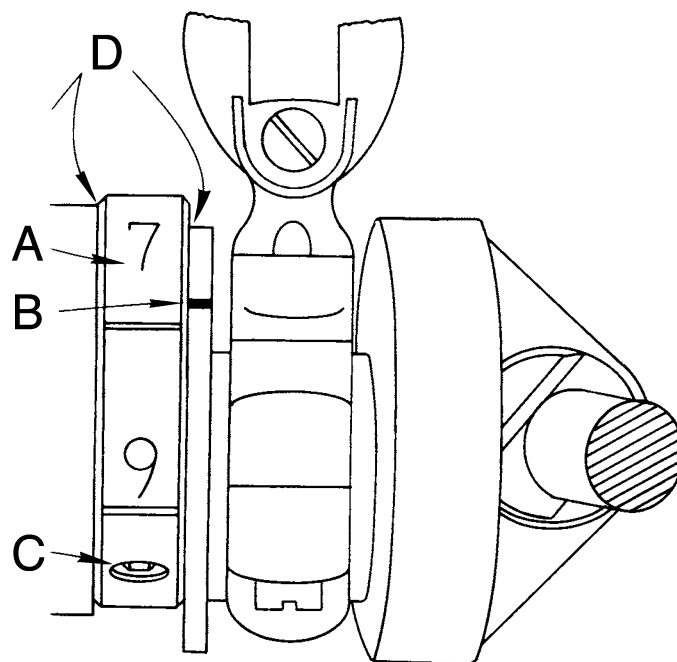

FIGURE 5
3. The numbered disc (**item "A" in Figure 5**) is called the stitch regulating collar. The position of this collar with respect to a notch on the rim of the feed eccentric (**item "B" in Figure 5**) determines the length of stitch. Before changing the length of the stitch, note the original setting of the notch with respect to the stitch regulating collar.
4. Loosen the screw (**item "C" in Figure 5**) which locks the stitch regulating collar in position. Insert a screwdriver blade in the split on the stitch regulating collar which will be found directly beneath the locking screw. While holding the screwdriver firmly in position, move the handwheel until the notch on the rim of the feed eccentric is lined up with the desired number on the stitch regulating collar. To increase the length of stitch from the original setting, move the notch to a higher number.
7. After completing the adjustment, thoroughly oil the feed lever and eccentric, particularly in the area indicated by **"D" in Figure 5**; and replace the side cover.